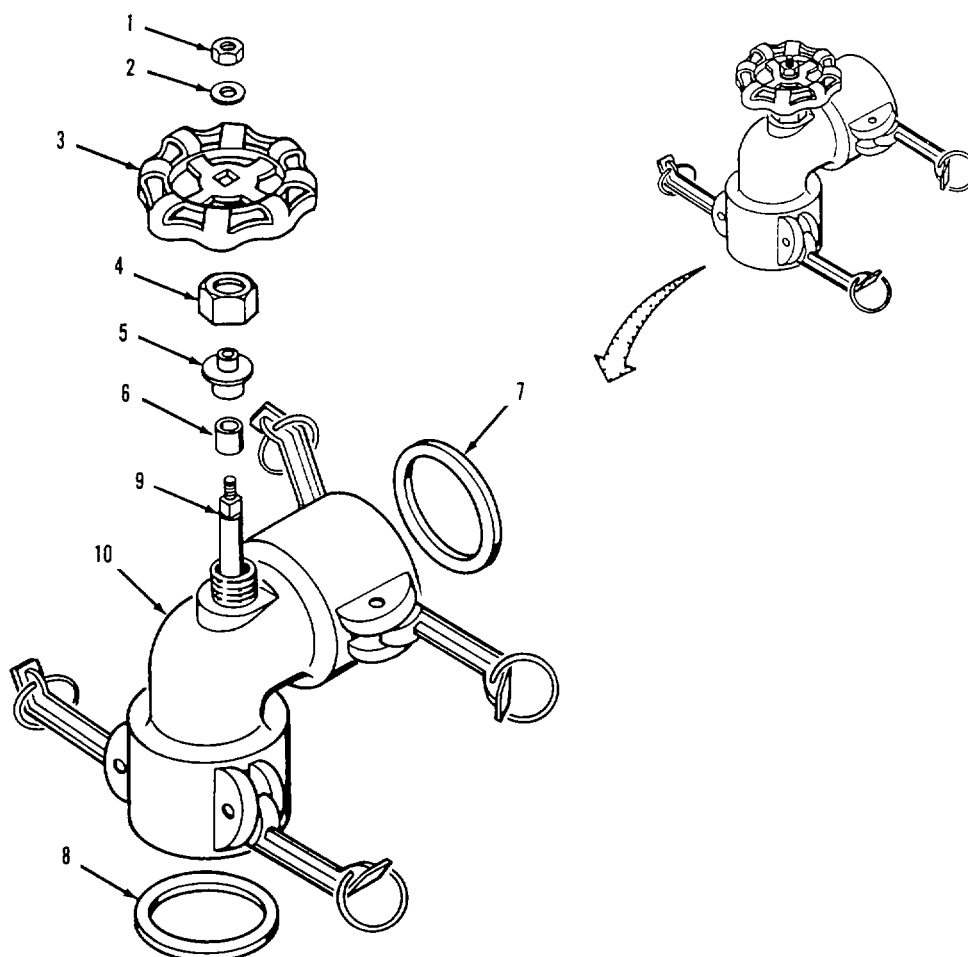

Figure 4-1. Elbow Valve Repair.
- a. Disassembly. Refer to figure 4-1.
- (1) Remove nut (1), washer (2) and handwheel (3) from stem (9)
- (2) Unscrew packing nut (4) from valve body (10)
- (1) Inspect valve body (10) for cracks and corrosion.
- (2) Inspect sealing surface of stem (9) for scoring, scratches and nicks
- d. Repair. Replace damaged parts and all sealing components. If stem (9) or valve body (10) is damaged or defective, replace entire elbow valve
e. Assembly. Refer to figure 4-1.
- (1) Install coupling gaskets (7 and 8) in valve body (10)
- (2) Install packing (6) and packing gland (5) on stem (9)
- (3) Screw packing nut (4) onto valve body (10)
- (4) Place handwheel (3) on stem (9) and install washer (2) and nut (1)
- (5) Install elbow valve in water system (para 3-4).
- (6) Startup water system (para 2-13c) and check elbow valve assembly for leaks. If valve leaks at stem (9), tighten packing nut (4) 1/4 turn until leak stops. Do not over tighten.